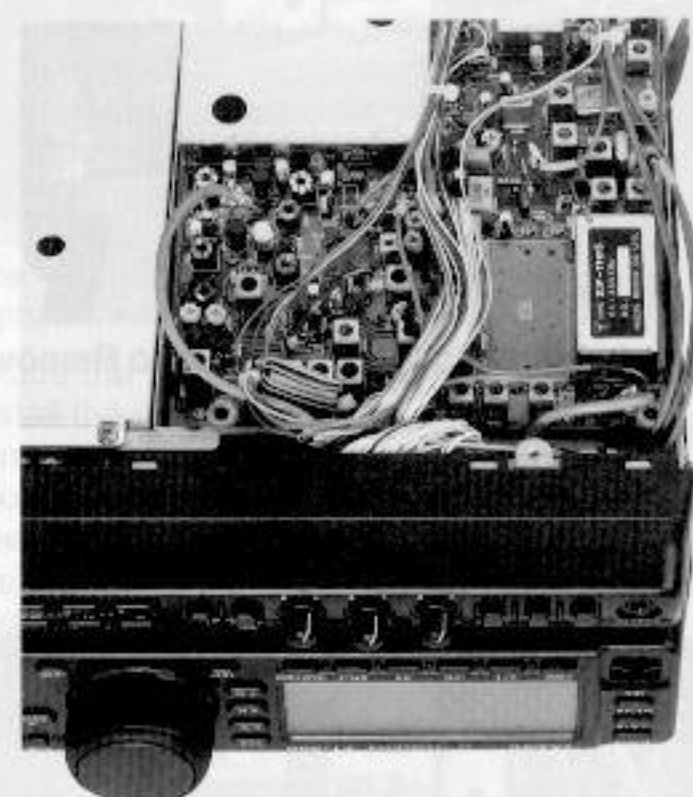

Figure 11
- ☐ If installing the XF-110S for SSB and AM narrow, refer to Figure 11, lift the rear edge of the board and carefully unsolder and remove the ceramic filter. Straighten the new filters' leads, if necessary. Then position each filter as indicated in the photos, and push the filter leads through the board.